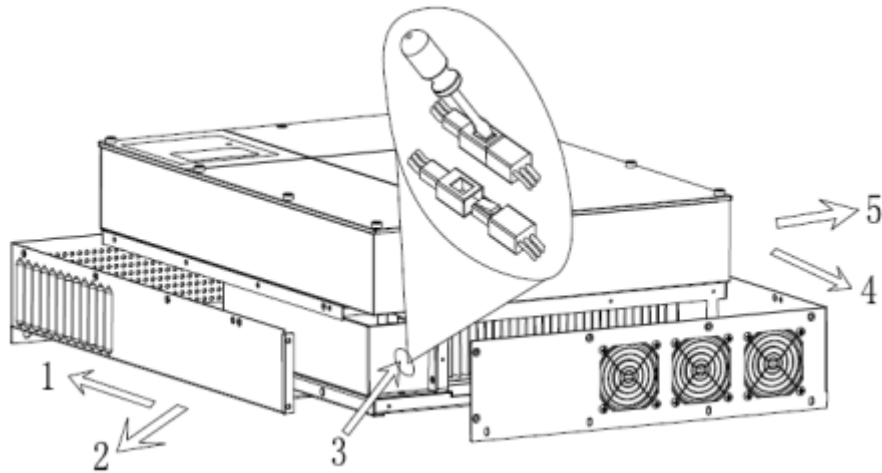

Fig.2.1.6
To unlock the plug connectors, you need some tinny tools. There are 2 connectors, as Fig.2.1.6 show.
6) Remove the shell plane of the top and left side, as Fig.2.1.6 1 2 4 5 show.